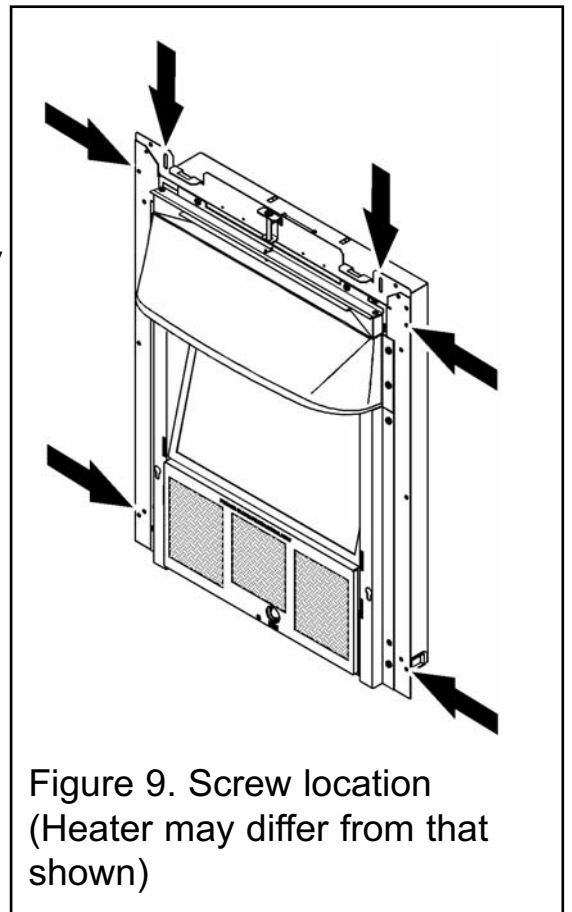

Figure 9. Screw location
2. There are two slotted holes in the top of the heater and four holes in the side flanges (See figure 9). We recommend the use of two upper holes and two lower holes. Mark through the required holes so that their position is clear when the heater is removed.